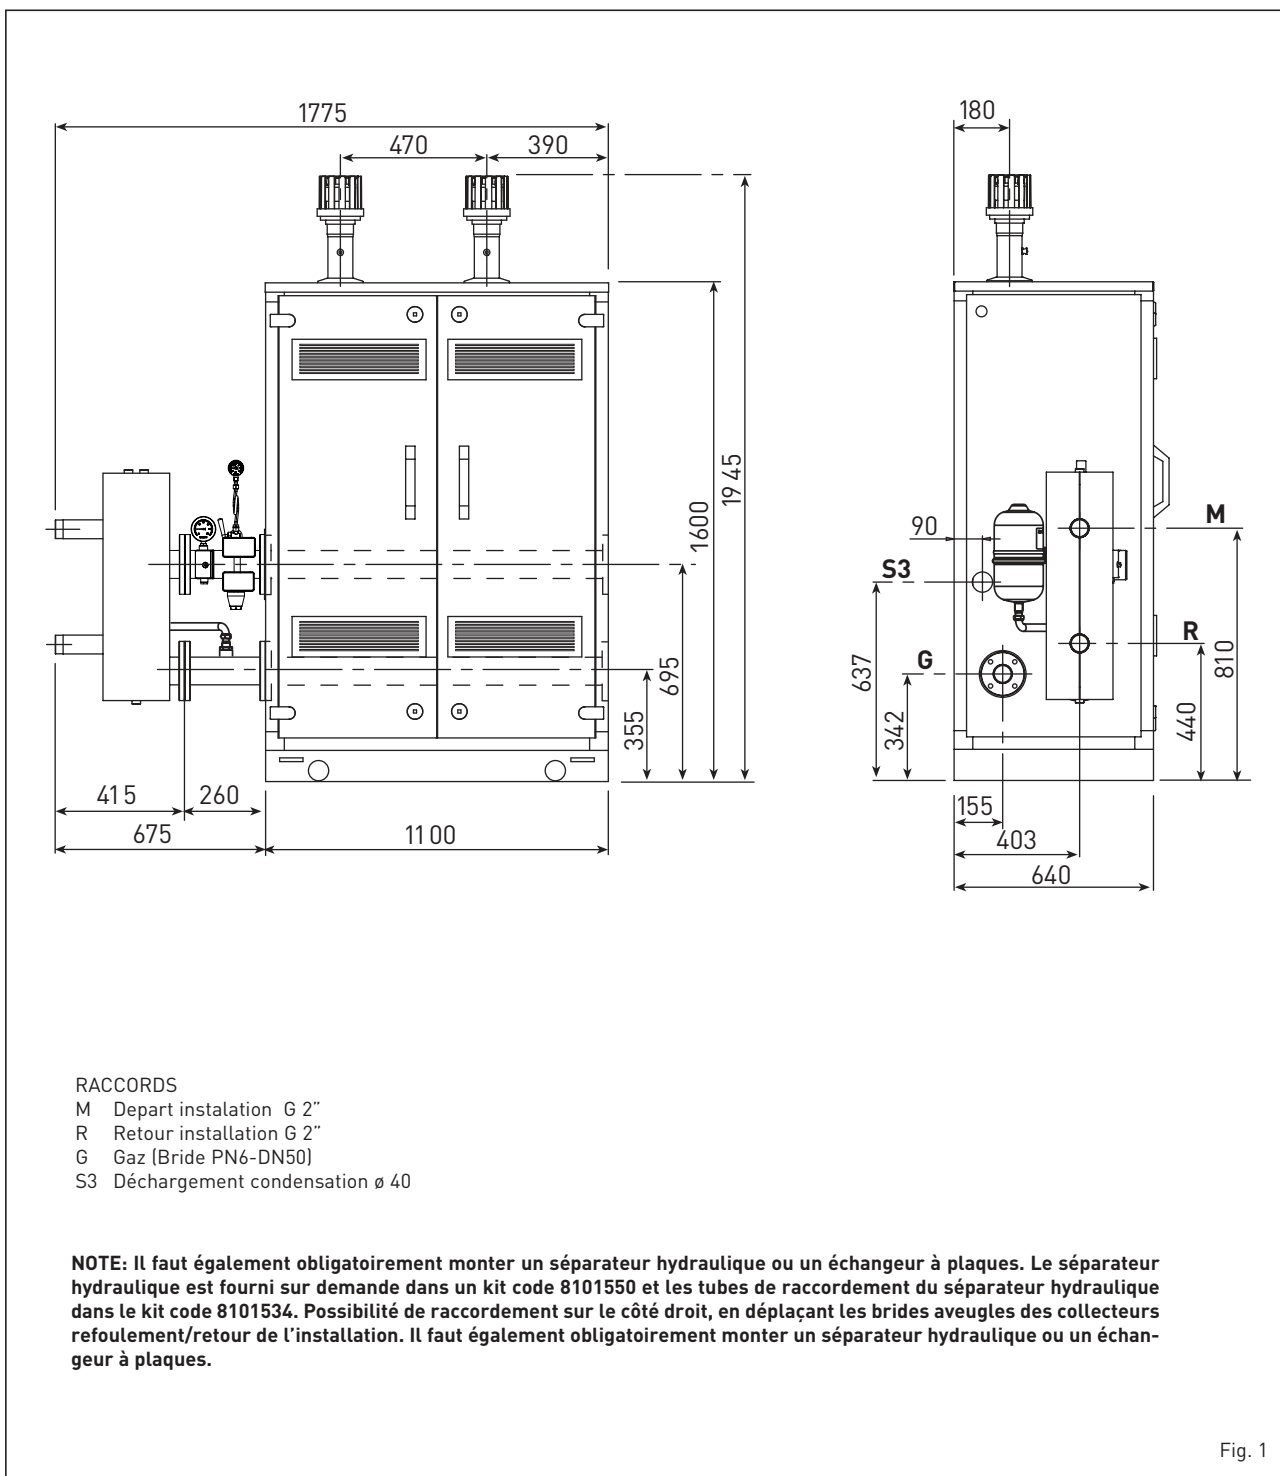

Fig. 1
1.2 DIMENSIONS DES MODULES (fig. 1)